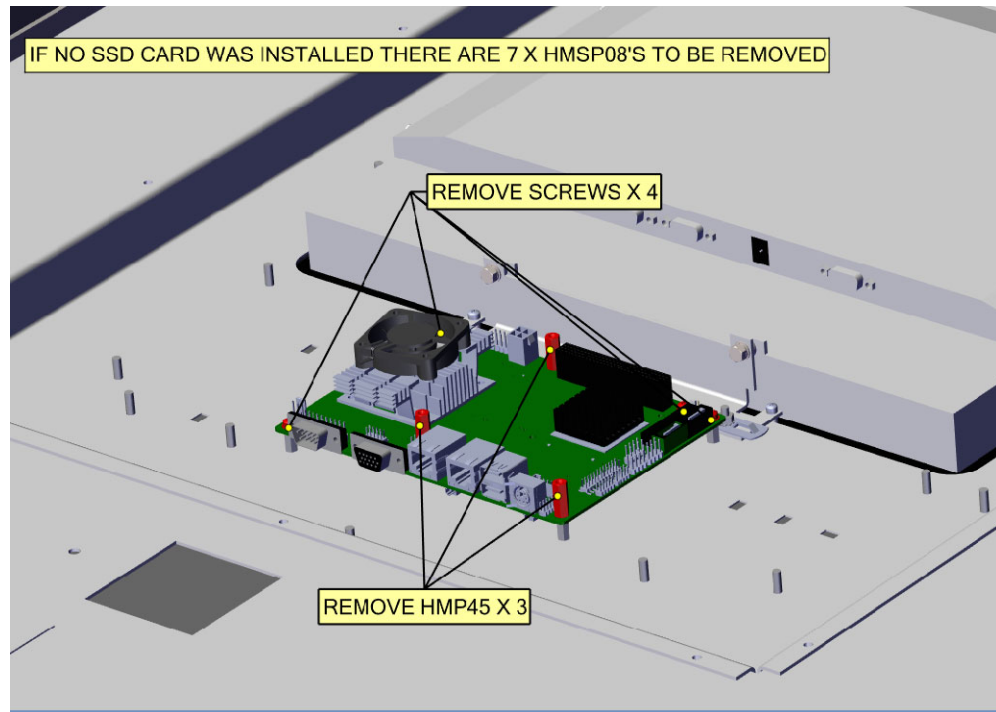

Figure 3: SBC Hardware Removal
- (h) Remove the four (4) M3 screws and the three (3) M3 pillars (Nautel part # HPM45) securing the SBC to the chassis. See Figure 3.